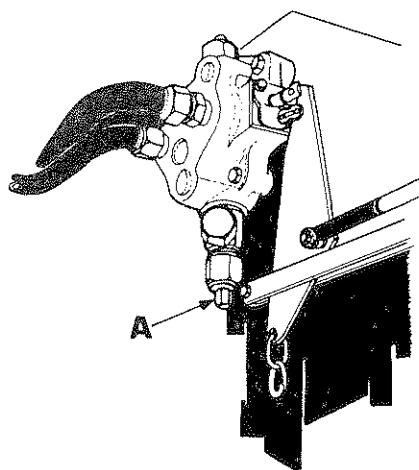

Fig. 53
2. Remove the 1/4 inch JIC cap from gauge port "A", see Fig. 53.